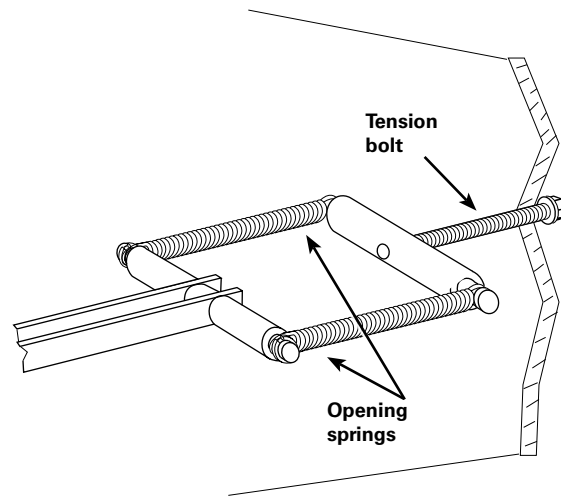

Figure 9. Opening spring tension bolt
- Loosen tension bolt to relieve opening spring tension, Figure 9.
- Tighten tension bolt to re-apply tension to opening spring, Figure 9.